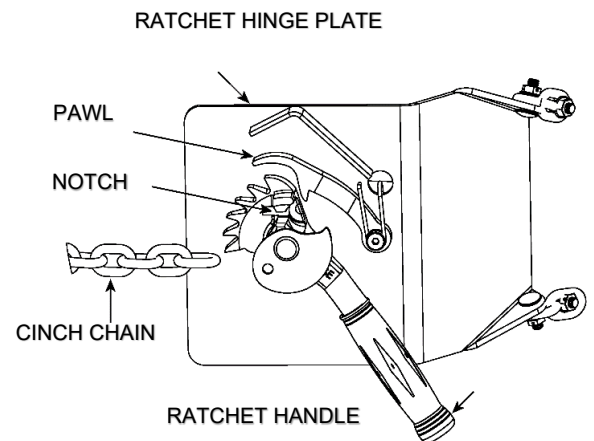

Figure 3.2
- Attaching drum: Drape cinch chain across front of drum and engage chain link into notch in ratchet (Figure 3.2). Turn ratchet clockwise to tighten cinch chain. If ratchet turns until pawl is beyond last ratchet tooth, turn ratchet back and slide next link into ratchet notch and try tightening again. Cinch chain must be held tightly against drum with pawl engaged securely in ratchet teeth.